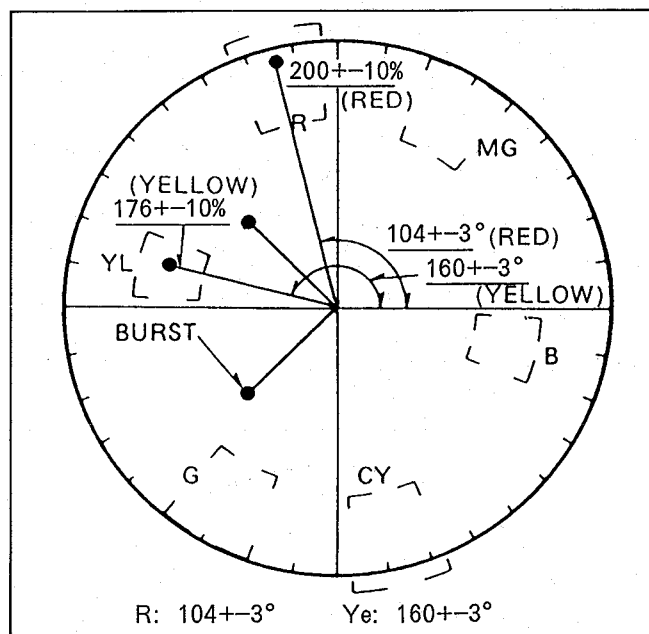

Fig. C32
16. Repeat the 3. to 15. until vectors become within spec as shown in Fig.C32.